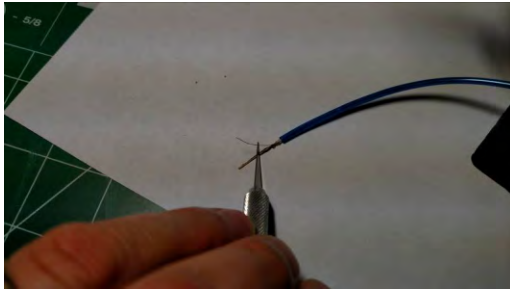

Fig. 5: Scrape off the insulation and phosphorescent coating.
3) Next use a hobby knife to remove the insulation from about $\frac{3}{8}$ " of the wire end. At this point you should see the white phosphorescent coating on the copper core; this will need to be scraped off so the core is bare copper. (Figure 5)